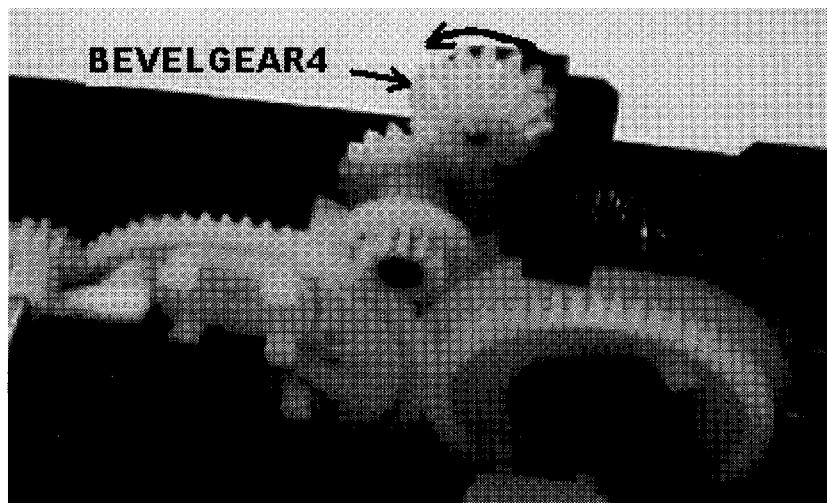

Fig.14
- 1) Turn **BEVEL GEAR 4**(17) anti-clockwise. (See Fig. 14.)
- 4) Then, turn **BEVEL GEAR 4** (17) anti-clockwise and take out the second **CARRIAGE**.